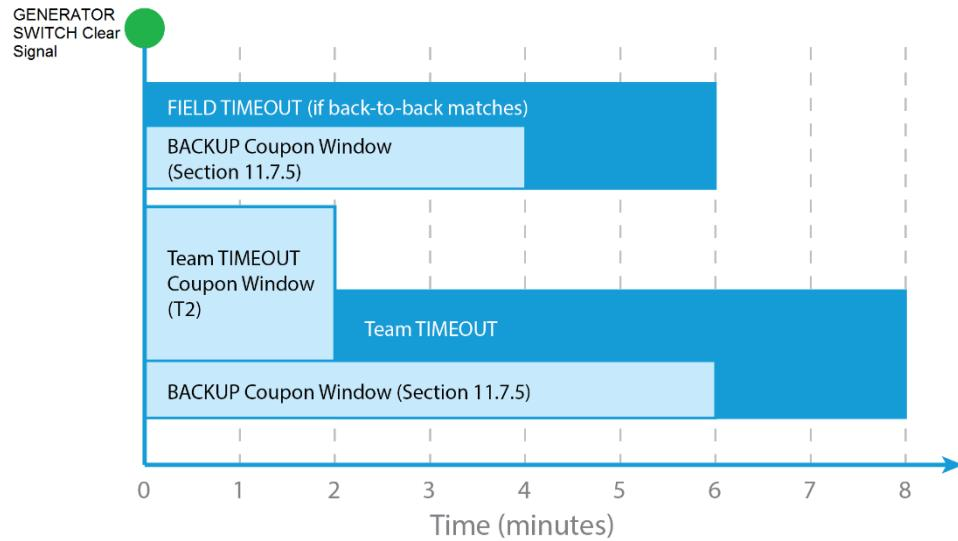

Figure 11-4 TIMEOUT Timeline
T2. If an ALLIANCE wishes to use their TIMEOUT, the ALLIANCE CAPTAIN must submit their TIMEOUT coupon to the Head REFEREE within two (2) minutes of the GENERATOR SWITCH Clear signal preceding their MATCH. If there is no preceding MATCH, the TIMEOUT coupon must be submitted no later than two (2) minutes before the scheduled MATCH time. The TIMEOUT will begin two (2) minutes after the GENERATOR SWITCH Clear signal (i.e. at the end of the Team TIMEOUT Coupon Window depicted in Figure 11-4)